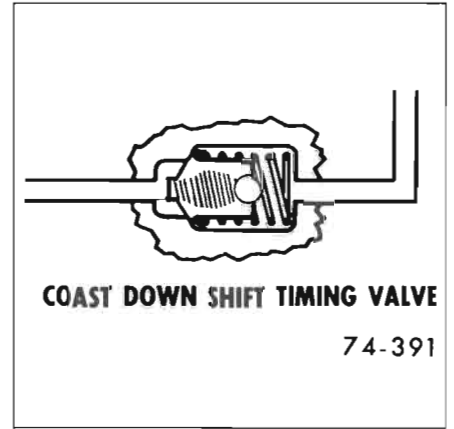

Figure 74-23—Coast Downshift Timing Valve
**m. Coast Down Shift Timing Valve (See Figure 74-23)**